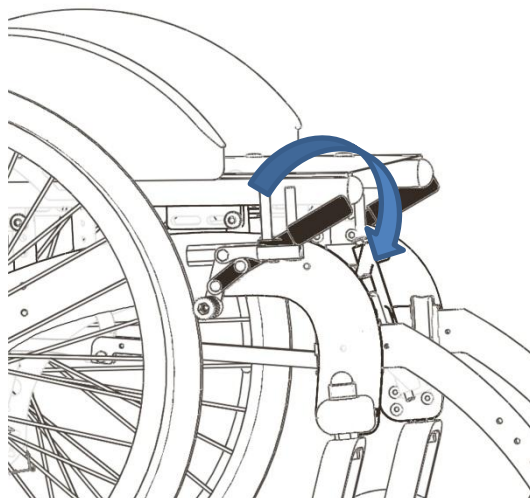

Figure 3
To lock the brakes use the lever (L) shown in Figure 3. In this way the wheelchair is blocked against any involuntary movement.